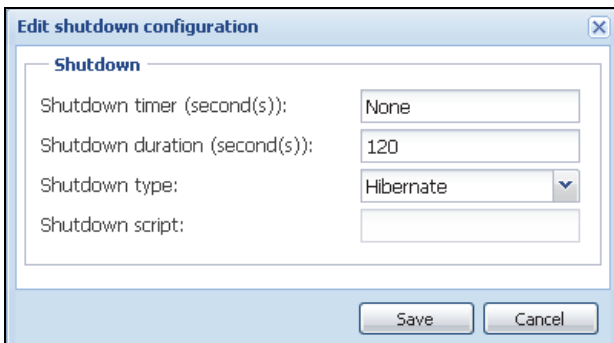

Figure 23. Edit Shutdown Configuration Dialog
- This is the default Dell ULNM#1 configuration. Figure 23 illustrates this Dell ULNM default configuration available from **Settings > Shutdown > Edit Shutdown Configuration**.